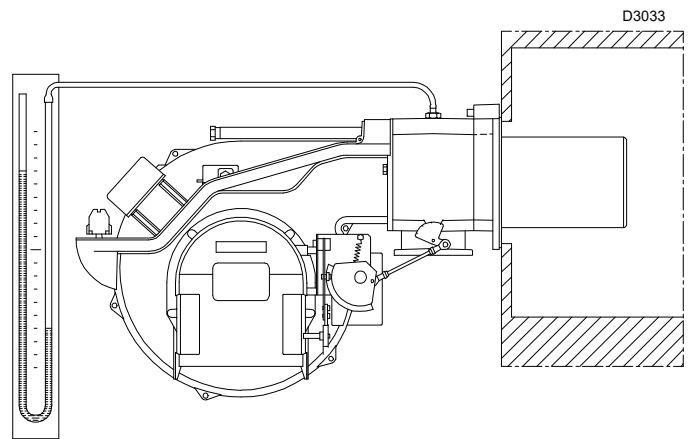

Fig. 27
- Fit a U-type pressure gauge (Fig. 27) to the gas pressure test point on the pipe coupling.
A rough indication can be obtained from the tables on page 5, just read the gas pressure on the U-shaped pressure gauge, see Fig. 27 on page 24), and follow the instructions on page 20.